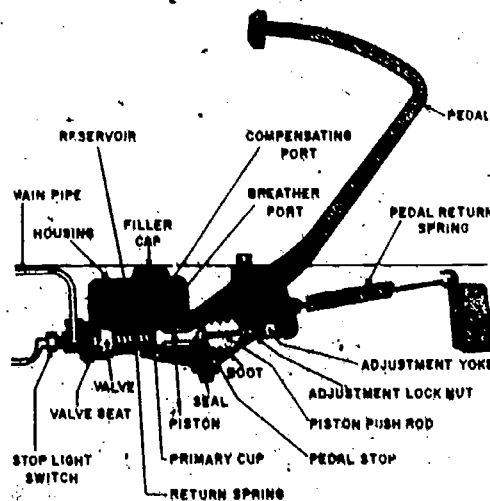

Fig 2-58. Hydraulic brake master-cylinder and brake-pedal connections
- (c) Use only approved hydraulic brake fluid when adding to or refilling the brake system. See that all dust and dirt are removed around the filler cap opening on the master cylinder before adding fluid. Add enough fluid so that the level reaches just below the filler cap opening (fig 2-58). After filling the reservoir, see that the vent at the top of the reservoir is open and the filler cap is tight. If the brake pedal goes to the floor-board when pushed down, the first things to check are the brake fluid level in the master cylinder and signs of leaks around the wheel cylinders.